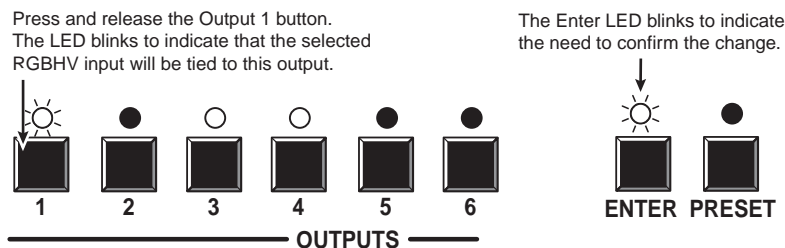

Figure 3-13 — Select the output
4. Press and release the output 1 button (figure 3-13).